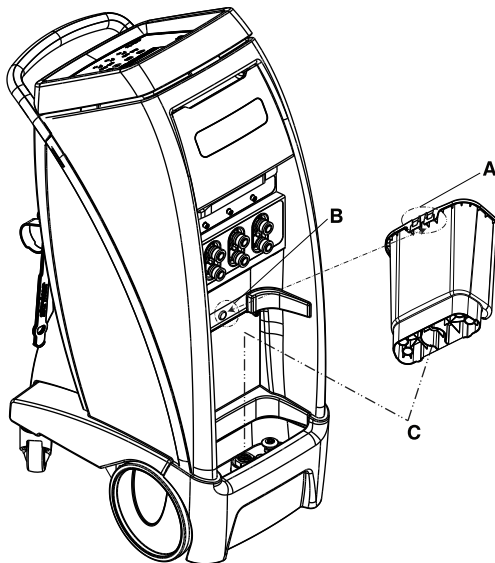

Figure 1-15: Removable reservoir
To remove the reservoir, pull forward at an angle, and lift out the reservoir (Figure 1-15 on page 1-27).
1. To replace the reservoir, align the base of the reservoir over the drain (C).
2. Align the notch on the back of the reservoir (A) with the hook on the controller (B) (Figure 1-15 on page 1-27)